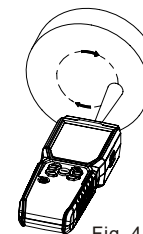

Fig. 4
1. Sans contact ---Mesure RPM/Hz (Fig.4)